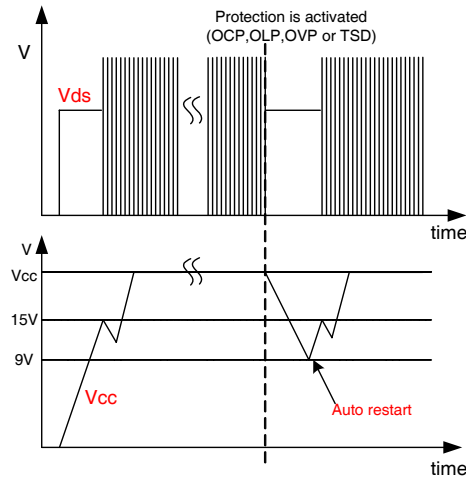

Figure 24. Auto restart operation after protection
3. Protection function: FS8S0765RCB has four self-protective functions such as abnormal over current protection (AOCP), overload protection (OLP), over-voltage protection (OVP) and thermal shutdown (TSD). Because these protection circuits are fully integrated into the IC without external components, the reliability can be improved without cost increase. In the event of these fault conditions, the FPS enters into auto-restart operation. Once the fault condition occurs, switching operation is terminated and MOSFET remains off, which forces V_{cc} to be reduced. When V_{cc} reaches 9V, the protection is reset and the supply current reduces to 80 μ A. Then, V_{cc} begin to increase with the current provided through the start-up resistor. When V_{cc} reaches 15V, the FPS resumes normal operation if the fault condition is removed. In this manner, the auto-restart alternately enables and disables the switching of the power MOSFET until the fault condition is eliminated, as illustrated in Figure 24.